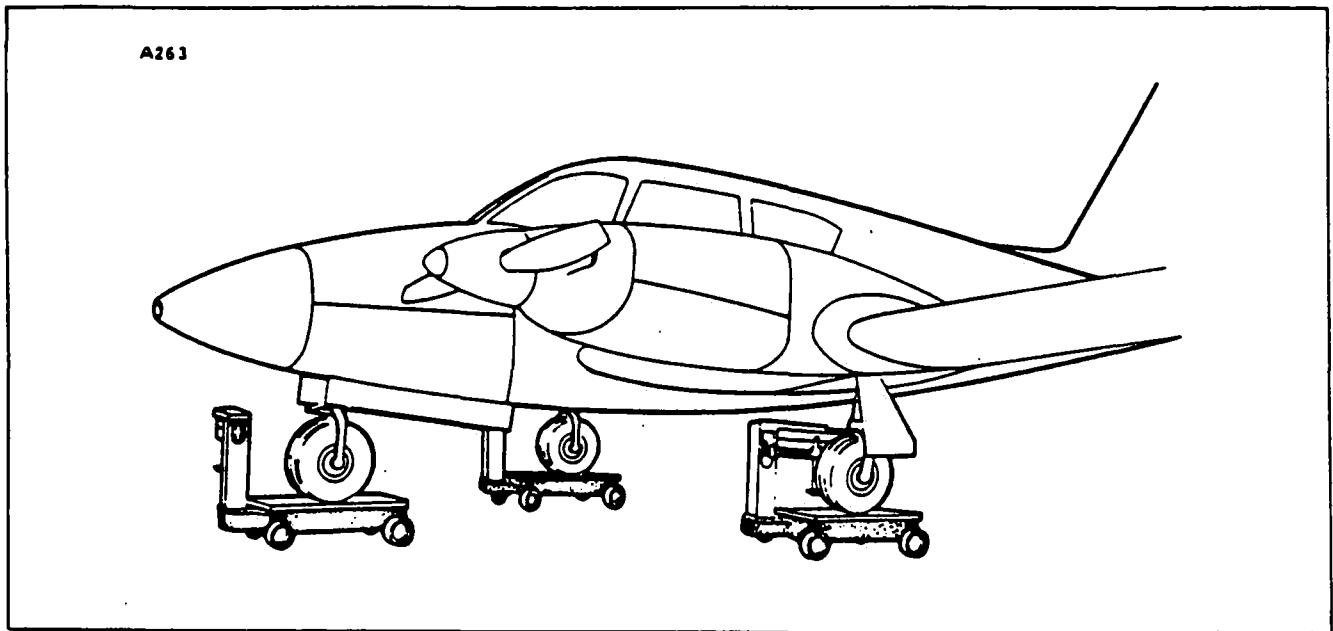

Figure 2-10. Weighing Airplane
**2-13. WEIGHING.** (Refer to Figure 2-10.) The airplane may be weighed by the following procedure: